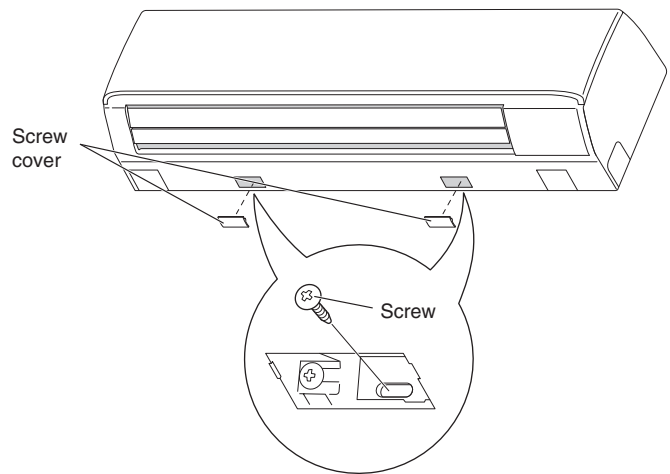

Fig. 3-33
(Fig. 3-33)
- (2) Fasten the frame to the rear panel using the 2 supplied tapping screws 5/32 × 13/32" (4 × 10 mm). (Fig. 3-33)
- (3) Press the 2 △ marks on the lower part of the indoor unit and unlatch the tabs. Then lift the indoor unit and unmount.